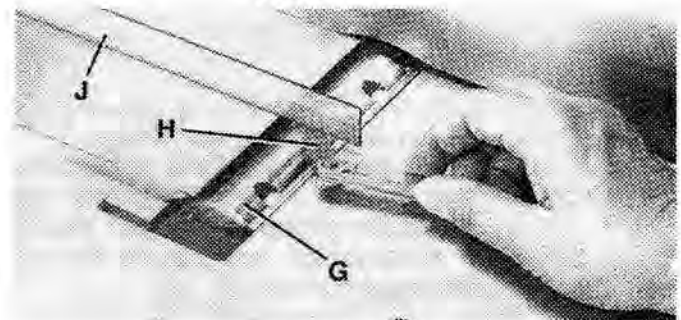

FIGURE 43
- Carefully rotate the cutterhead (G) Fig. 43, until the round portion of the cutterhead is on top as shown.
- Place a 0.060" feeler gage (H) Fig. 43, on the cutterhead and using a straight edge (J) on the rear table adjust the height of the rear table until it is 0.060" above the cutting head diameter, as shown.